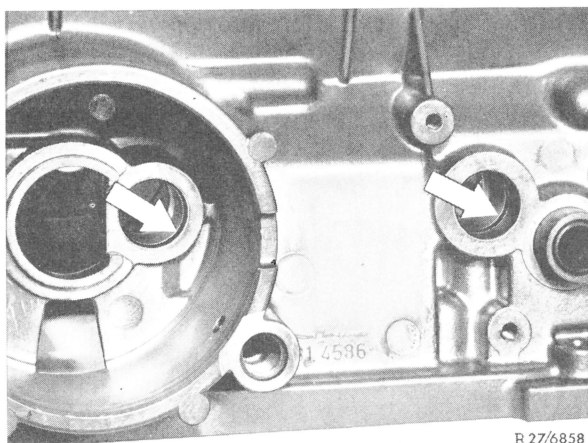

Fig. 27
**42** Replace O-rings depending on version in transmission case (arrows in Fig. 27) or on thrust bodies.